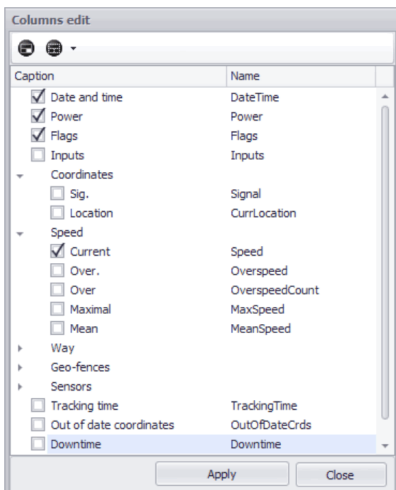
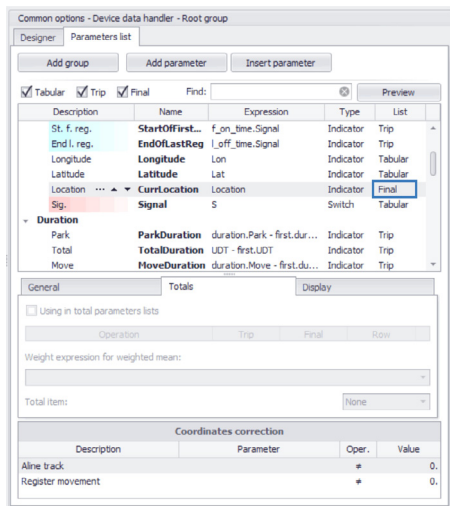
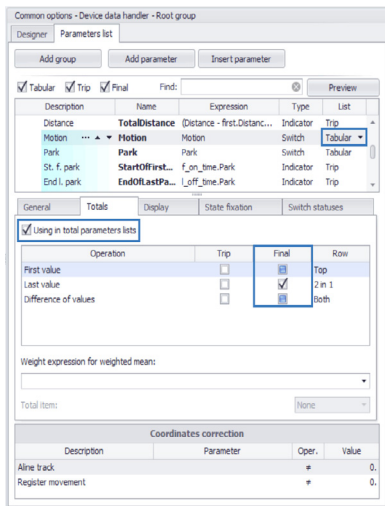

Fig. 38. List of possible columns of the Device selector.
Fig. 39. Final parameter (The “Devices” menu, “Calculation – Calculation parameters” section).
Fig. 40. Tabular parameter (The “Devices” menu, “Calculation – Calculation parameters” section).
For the parameter to be displayed in the "Columns edit" menu (Fig. 38), that parameter shall either be final (Fig. 39), or tabular with enabled "Using in total parameters lists" option (Fig. 40).
- Create a parameter for grouping. Grouping can be performed using parameters set up as final ones (Fig. 39), or as tabular, but with enabled “Using in total parameters lists” option (Fig. 40).